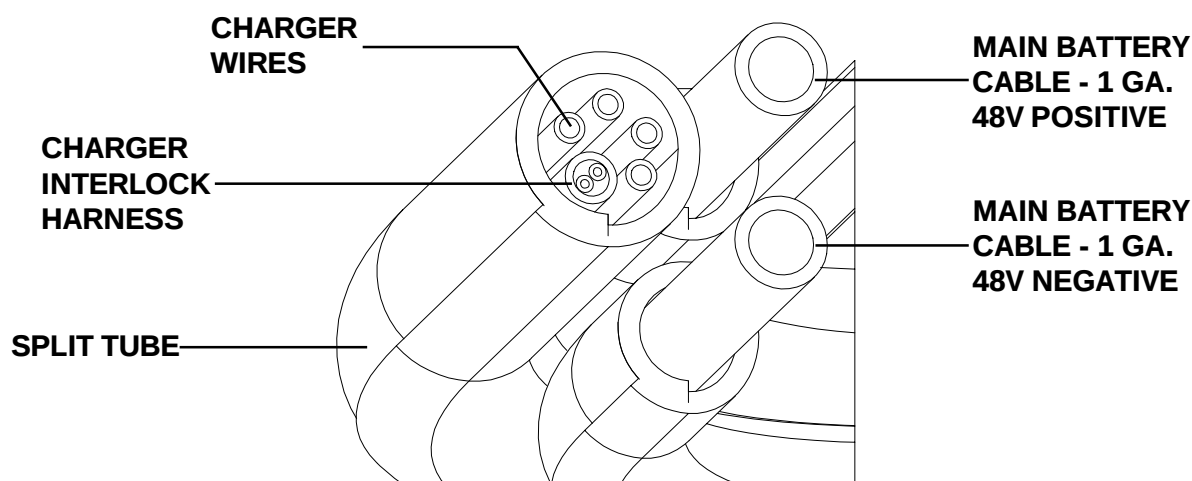

Figure 1-6
Step 12. Install the 108" piece of 1" I.D. split tubing over the two Black, the two Red 10 Ga. Battery Charger wires and the 18/2 Charger Interlock Harness (**Refer to Figure 1-6**).
Step 13. Locate the 1 Ga. 48V Positive and the 1 Ga. 48V Negative Main Battery Cables where they pass through the Cabinet Entry Tube. Install an 18" piece of 3/4" I.D. split tubing over each cable. Each piece of split tubing should be centered on the Battery Cable so that the ends of the split tubing extends past the edges of the Cabinet Entry Tube equally. (**Refer to Figure 1-6**)